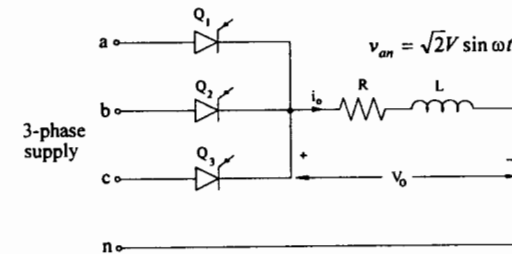

Figure 3: A three-phase half-wave rectifier.
3. For the 3-phase half-wave controlled rectifier circuit shown in Figure 3,  $V = 120$  V,  $R = 3 \Omega$  and  $\alpha = 45^\circ$ . The load inductance is so large that the load current virtually remains constant. (a) Sketch to scale the time variations of the output voltage, the output current and the input line currents, and calculate the (b) average output voltage, (c) average output current and (d) the maximum reverse voltage across each thyristor.